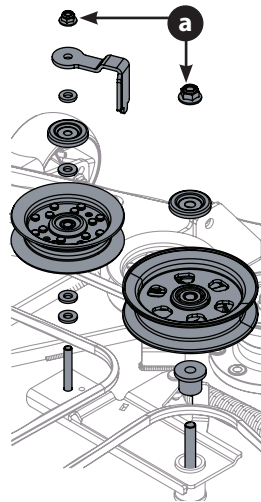

Figure 50
4. Remove the two idler pulley assemblies by removing the flange lock nuts (a) at the top of the assemblies, then removing the assemblies from the idler arm (Figure 50).